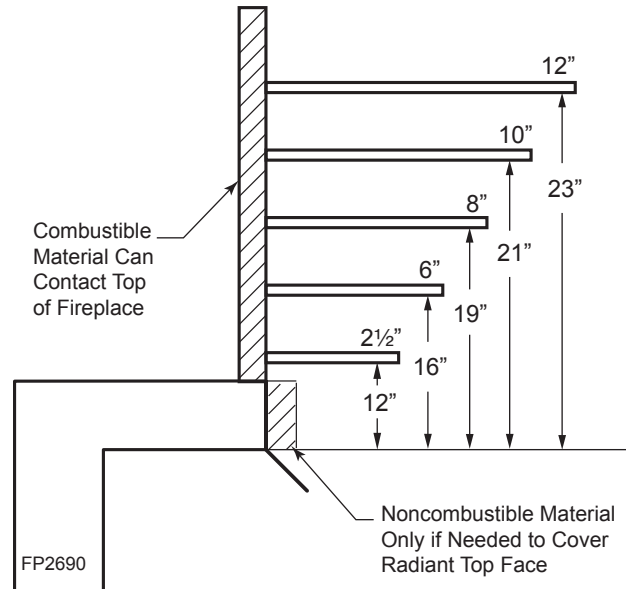

Figure 5 -
- 4. Mantel clearances:** The canopy supplied with the unit must be installed. If a combustible mantel is installed, it must meet the clearance requirements as shown in *Figure 5*. However, if lower mantel height is desired, refer to Page 14, *Figure 6*.